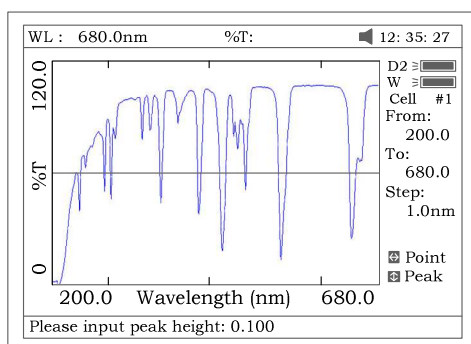
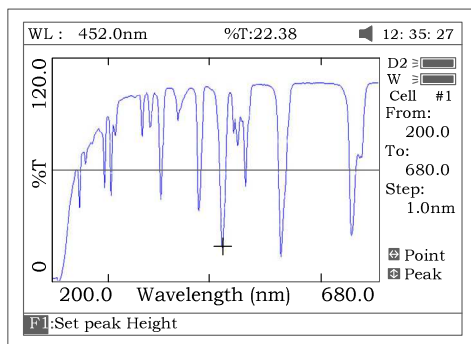

Fig 50
Fig 51
- 1) **Peak to peak**, press **[F1]** to set “peak height” and input value by pressing the numeric keypad (Fig 50). Press **[^]** to search the peak from left to right and press **[v]** to search from right to left. The value of every peak found will be displayed on the screen one at a time (Fig 51).